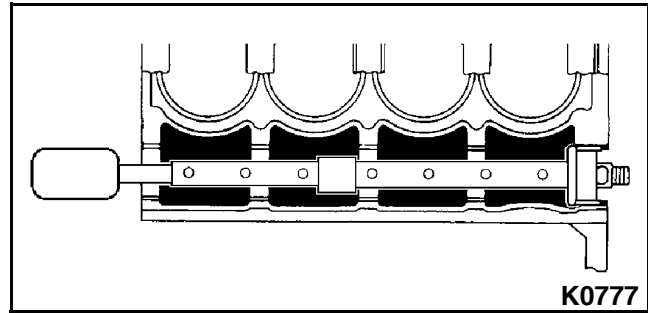

Figure 3-174
2. Using a camshaft bearing removal tool, remove the camshaft bearings. **See Figure 3-174.**